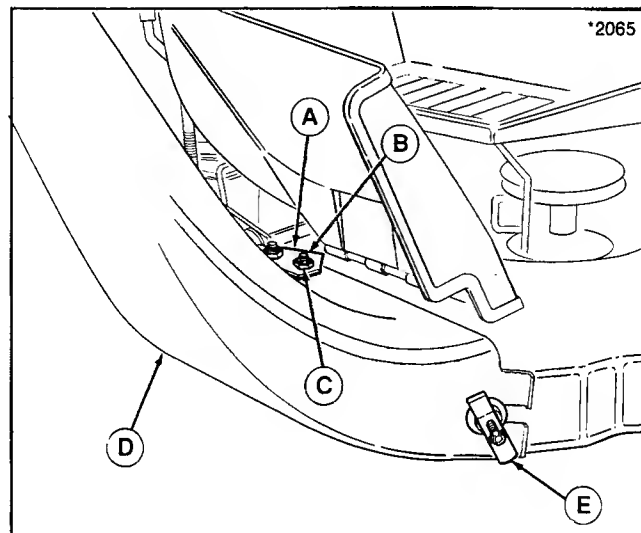

Figure 10.
13. Install the bracket (A, figure 10) onto adaptor (D) with two 5/16-18 x 3/4 capscrews (B) and hex locknuts (C). Lift the deflector up and install the adaptor (D) to mower deck by positioning over capscrew in front and hooking bracket over deflector support rod in rear. Secure by tightening wing nut (E).